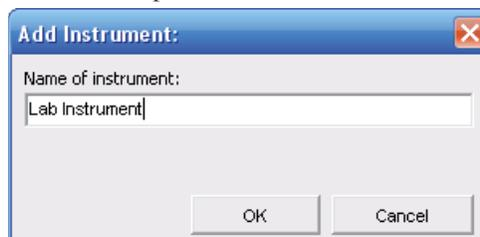

Figure 12: Add Instrument Box
1. Access the Central IMT and select **Add Instrument** from the Permissions menu. This opens the Add Instrument box (Figure 12).